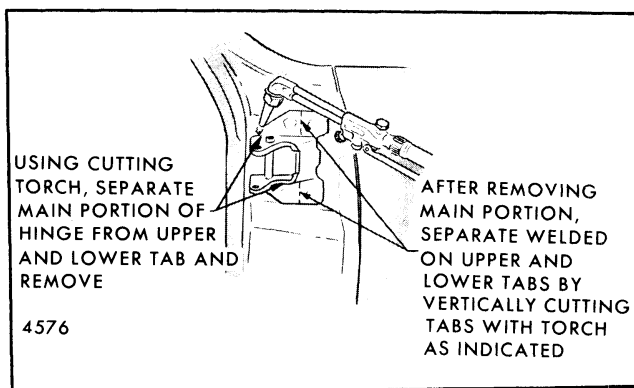

Fig. 5-64-Body Side Hinge Strap Removal - "X" Styles
4. Using a cutting torch, separate main portion of hinge from upper and lower tabs. After main portion has been removed, vertically cut upper and lower hinge tabs with cutting torch, as shown in Figure 5-64.